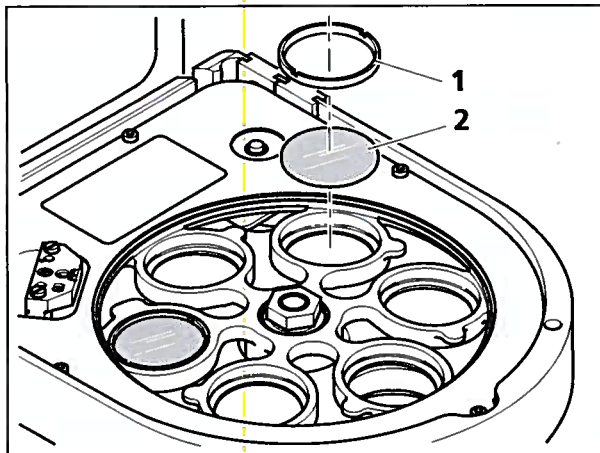

Fig. 6-21 Changing the excitation filter
- Unscrew the retaining ring (Fig. 6-21/1) at the corresponding filter wheel position and remove any existing filter (Fig. 6-21/2) using the filter lifter.